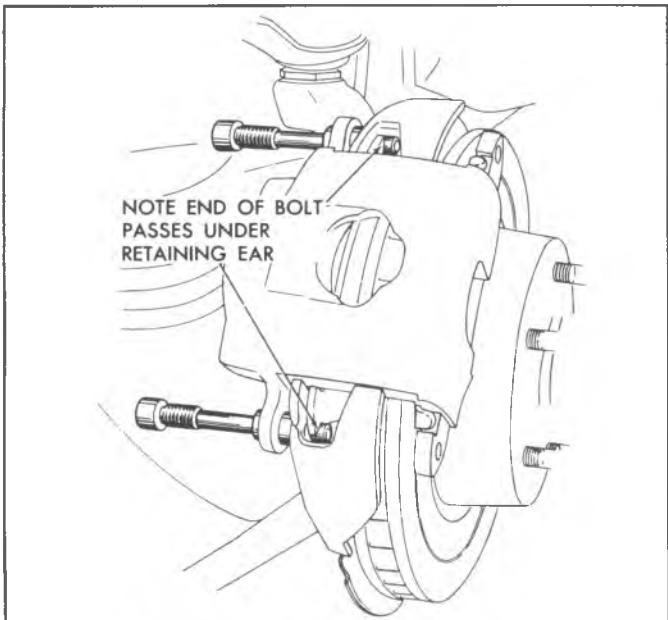

Fig. 55--Caliper Removal and Installation
4. Remove the two mounting bolts which attach the caliper to the support (fig. 55).